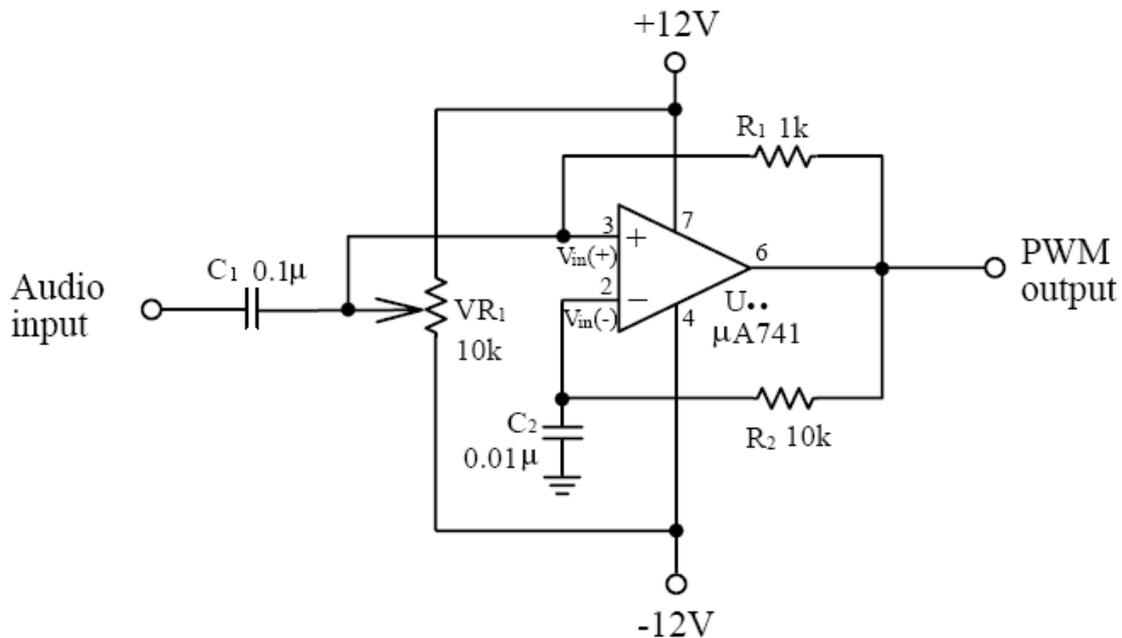

Fig. 8-2 The pulse width modulator based $\mu A741$.
A square-wave generator or a monostable multivibrator can be used to generate the PWM signal. Fig. 8.2 shows a square generator whose output pulse width is determined by the values of R_2 , C_2 , and $V_{in}(+)$. The $\mu A741$ operational amplifier acts as a voltage comparator. The reference voltage at $V_{in}(+)$ input (pin 3) is determined by the resistor values of R_1 and VR_1 . The combination of R_2 and C_2 provides the path for charging and discharging. When no audio signal is applied, the dc reference voltage at $V_{in}(+)$ input can be changed by adjusting the VR_1 value. If dc level of VR_1 is fixed and an audio signal is applied to the audio input, the audio signal is added to the fixed dc level and the reference voltage will be
1. What is the function of VR_1 in Figs 8.2 and 8.7?